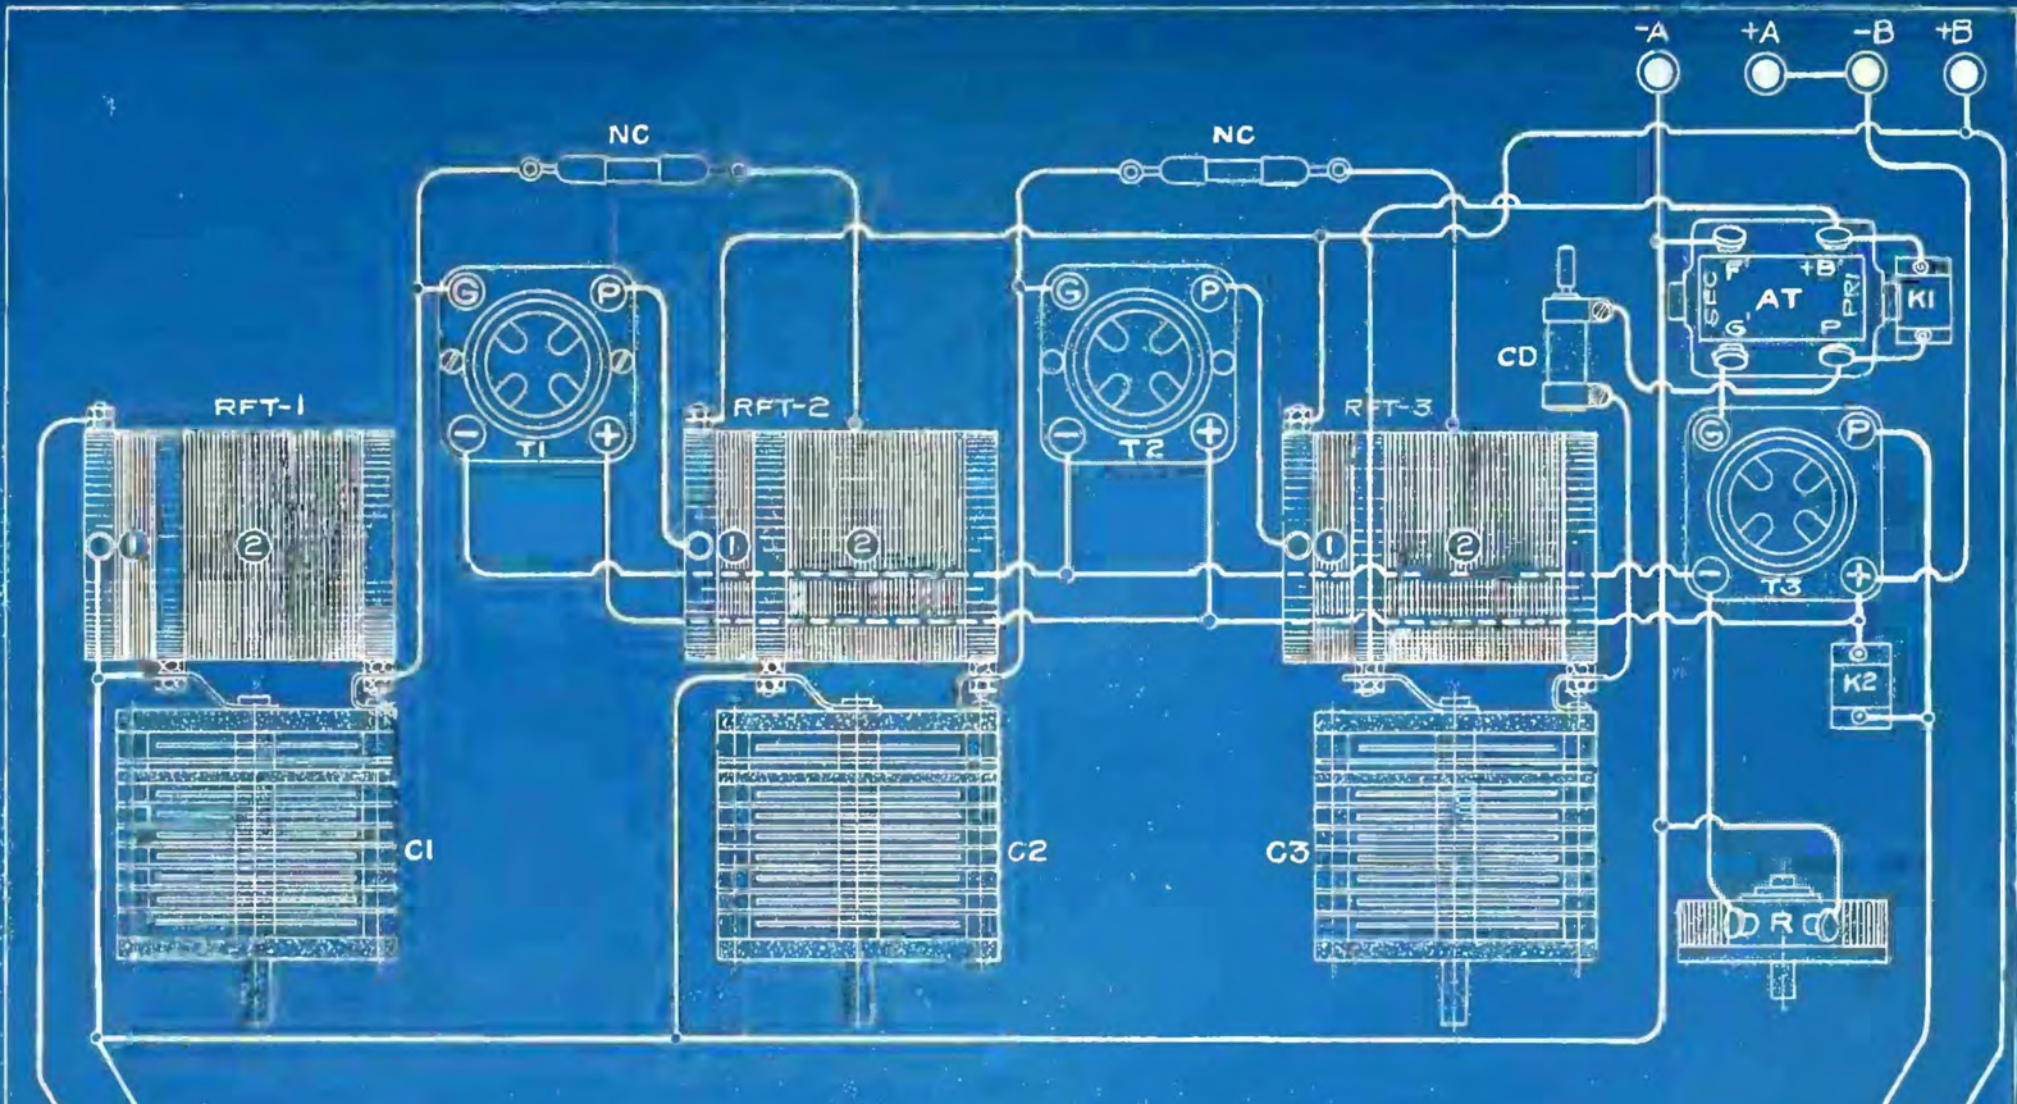
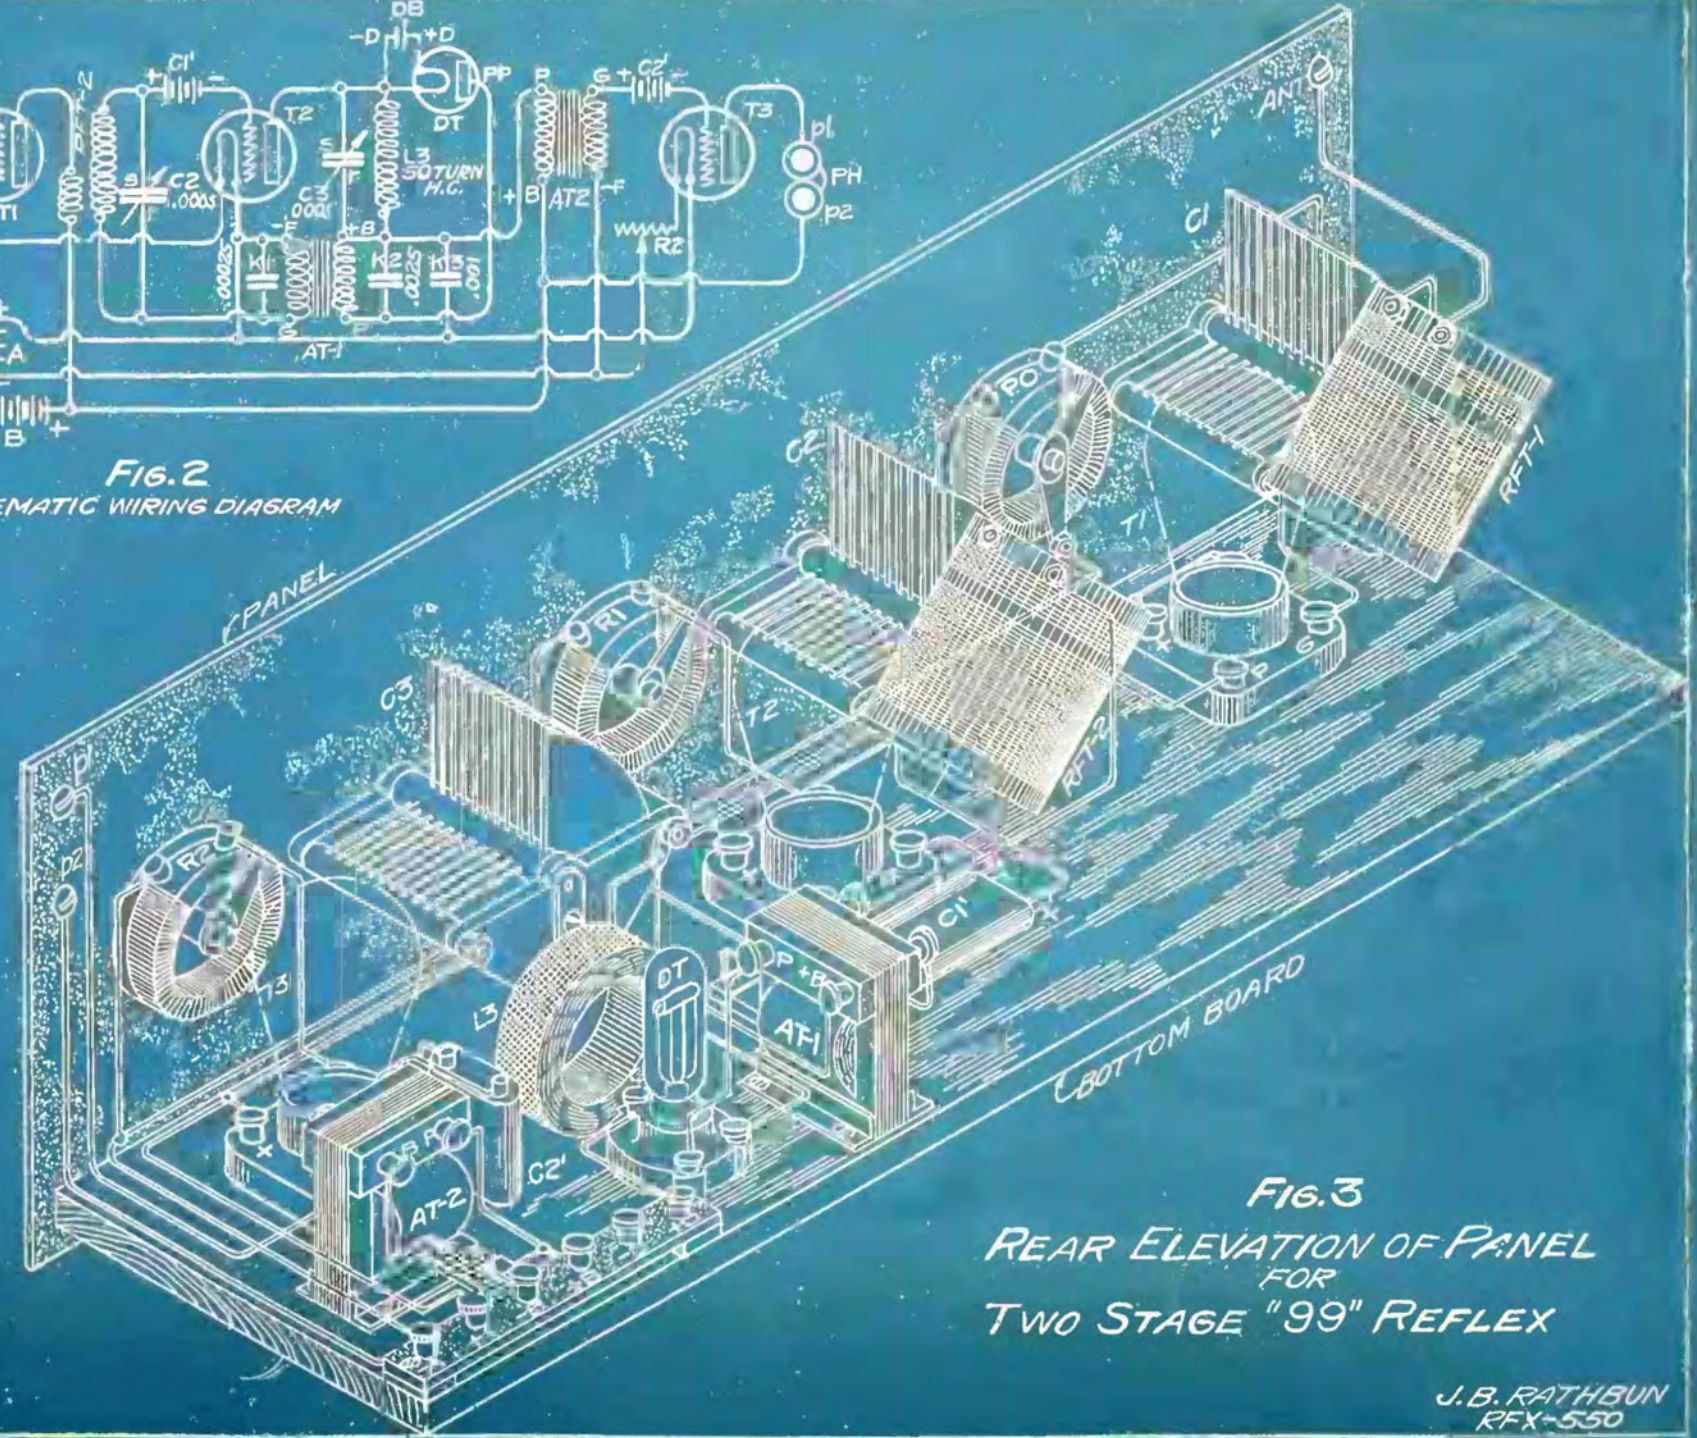

FIG. 1
FIG. 3
TO produce the maximum range and volume, we will require a 90 volt "B" battery for supplying the plate current. This is connected between the (-B) and (+B) battery binding posts. The audio amplification will be made somewhat greater if we introduce a 4.5 vole "C" battery between the secondary transformer post (G') and the grid (G) of the tube (T3). Full details of this arrangement were shown on Data sheets JJ-9-25 and JJ-9-26 of the September RADIO AGE. The installation in Fig. 1 of data sheet JJ-9-26 shows the installation exactly as it would be made. Be sure that the negative (-) post is connected to the (G) post of the socket.
After the circuit has been wired up according to the diagram in Fig. 1, with the apparatus located as in the isometric view of Fig. 3, we can connect the batteries, insert the tubes, and then make the neutralizing adjustments. With the tubes lighted up to normal brilliancy we can tune in some local station by means of the variable condensers until we obtain maximum volume. Now note the position of the dials on the condensers, and after loosening the dial, set the screws and turn them until the same number on each dial comes exactly opposite to its stationary pointer. This will save much time in tuning, as we are now able to get all three condensers in exact agreement by turning to the same number on each dial.